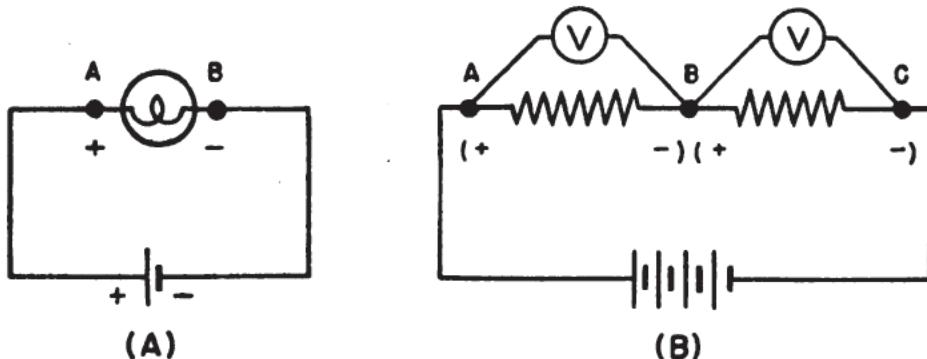

Figure 30.—Electrical polarity.
circuit to force along a current between these points. Thus, in (A) of figure 30, point *A* must be positive with respect to point *B* for current to be forced from *A* to *B*. In (B) of figure 30, when current flows from point *A* to point *B*, it only